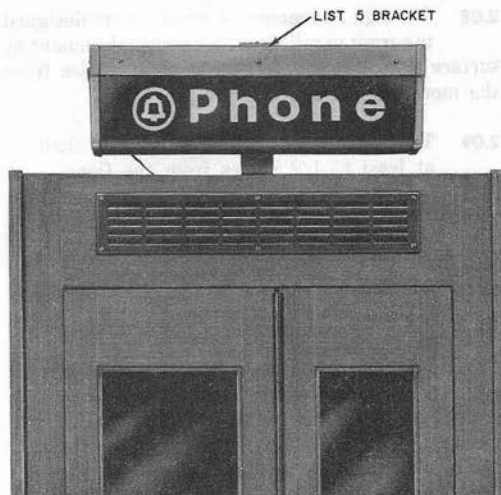
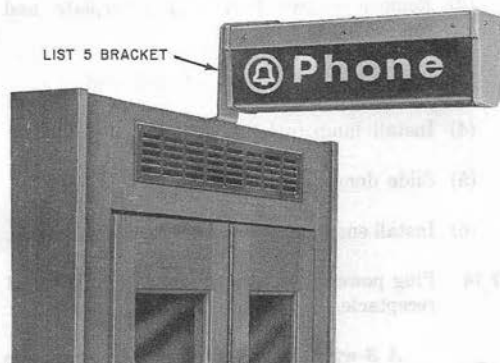

Fig. 9—Parallel Installation of KS-16422 Sign
Fig. 10—Projecting Installation of KS-16422 Sign
2.08 The sign and mounting brackets are designed to permit paralalled mounting with the mounting surface (Fig. 9) or projection at right angles from the mounting surface (Fig. 10).